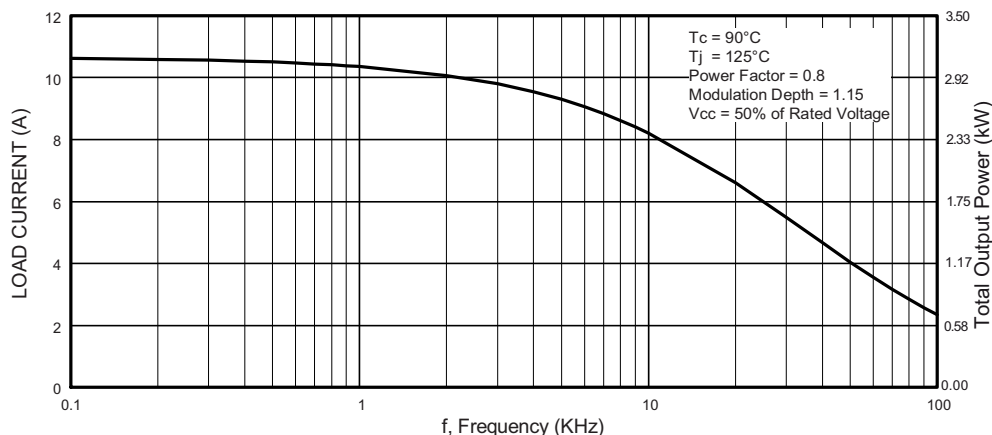

Fig. 1 - Typical Load Current vs. Frequency
Modulation depth (see fig. 1)	115 %
- Short circuit rated ultrafast: optimized for high speed (see fig. 1 for current vs. frequency curve), and short circuit rated to 10 μs at 125 $^{\circ}\text{C}$, $V_{GE} = 15\text{ V}$